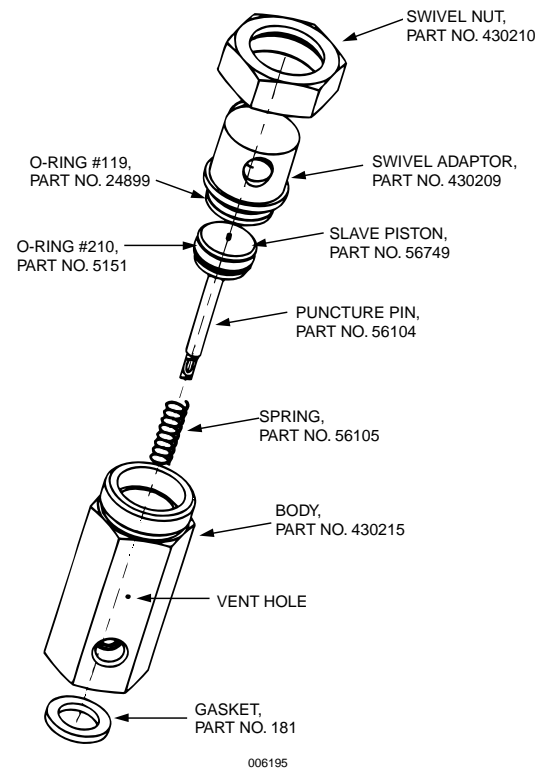

FIGURE 1
- 13. Clean actuator(s) (Part No. 430221) as follows: (see Figure 1)